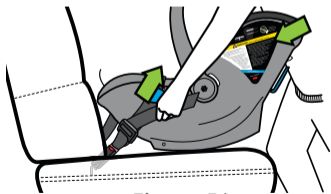

Figure 56
- Use your body to press the Carrier into the vehicle seat back while pulling free end of LATCH Belt to tighten, as shown in **Figure 56**.